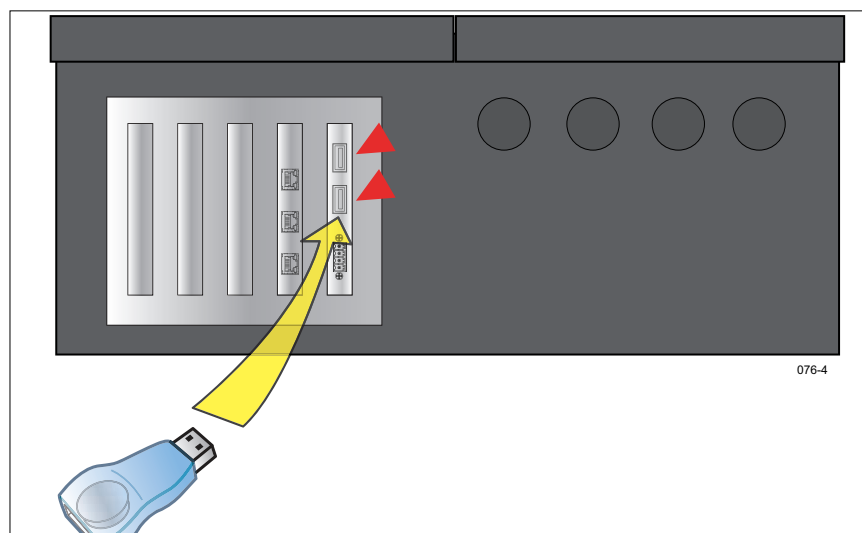

Figure 19. Inserting the USB Adapter Thumb Drive
2. Insert the USB Adapter into one of the two USB ports in the bottom of the console as shown in Figure 19 below.